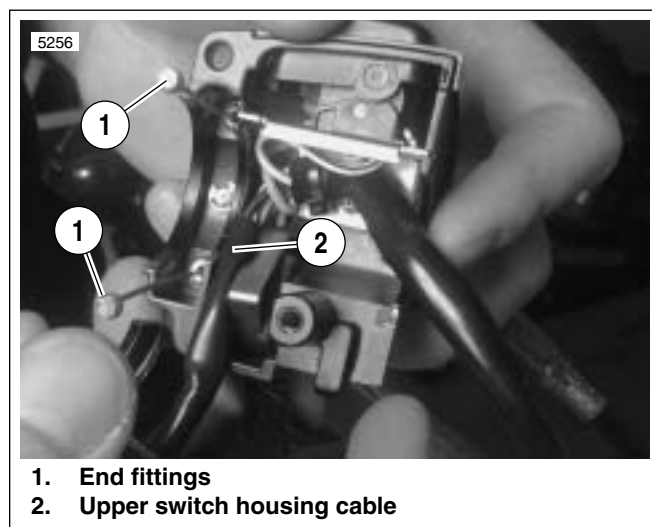

Figure 8-35. Route Cable to Upper Switch Housing
- b. Push the gold insert (1) of idle cable housing into the hole at the rear of tension adjuster screw.
8. See Figure 8-35. Route the cable to the upper switch housing as shown.